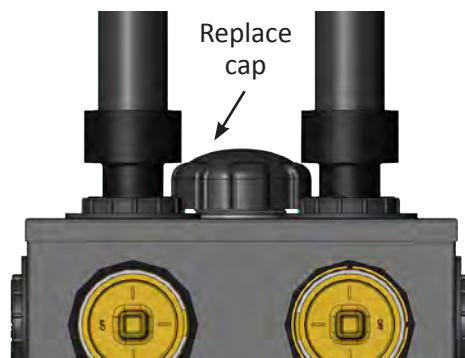

Figure 16: Replace top cap
7. Replace the tank's cap tightening until you hear a "click" similar to an automotive gas cap. Rotate OFF on the upper left valve to the 9 o'clock position (Figure 16).